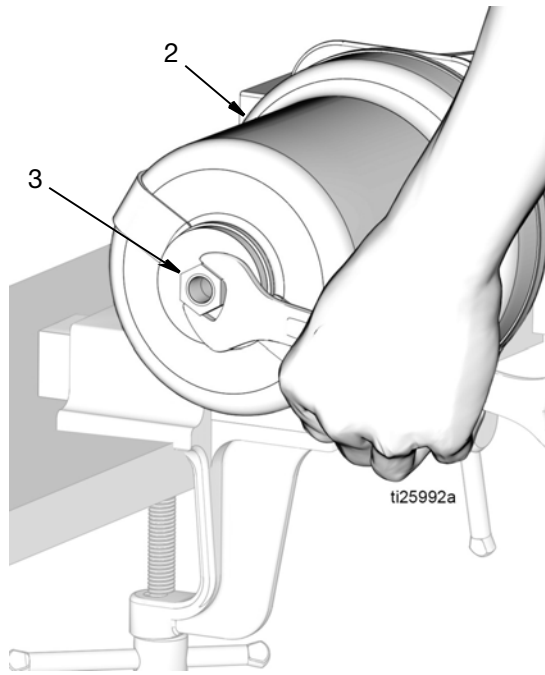

FIG. 54
- e. Thread piston stop nut (3) into top of air cylinder (2) as shown in FIG. 54. Wrench tighten nut. Then torque nut to 15 to 17 ft. lbs (20.3 to 23.1 N•m).